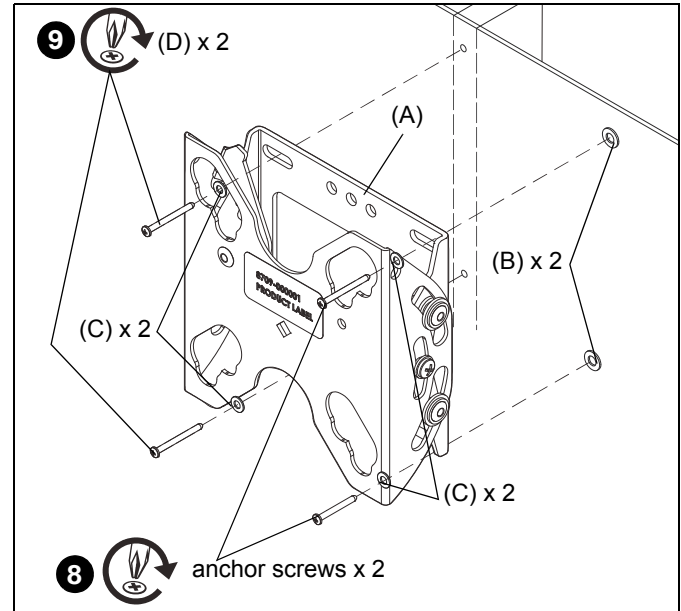

Figure 5
8. Insert anchor screws through two #10 washers (C), FTR assembly (A) and install into collapsed anchors (B). (See Figure 5)
9. Install two #10 x 2-1/2" Phillips tapping screws (D) through two #10 washers (C), FTR assembly (A) and into wood stud. (See Figure 5)